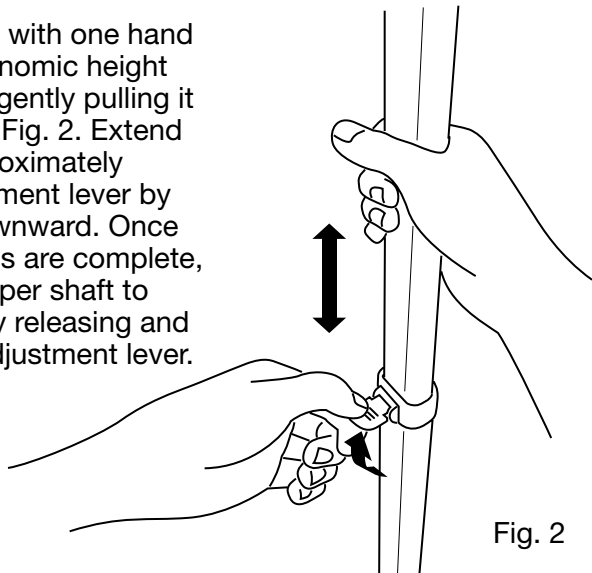

Fig. 2
2. Hold the upper shaft with one hand and release the ergonomic height adjustment lever by gently pulling it upward as shown in Fig. 2. Extend the upper shaft approximately 12". Lock the adjustment lever by gently pushing it downward. Once assembly instructions are complete, raise or lower the upper shaft to the desired height by releasing and locking the height adjustment lever.